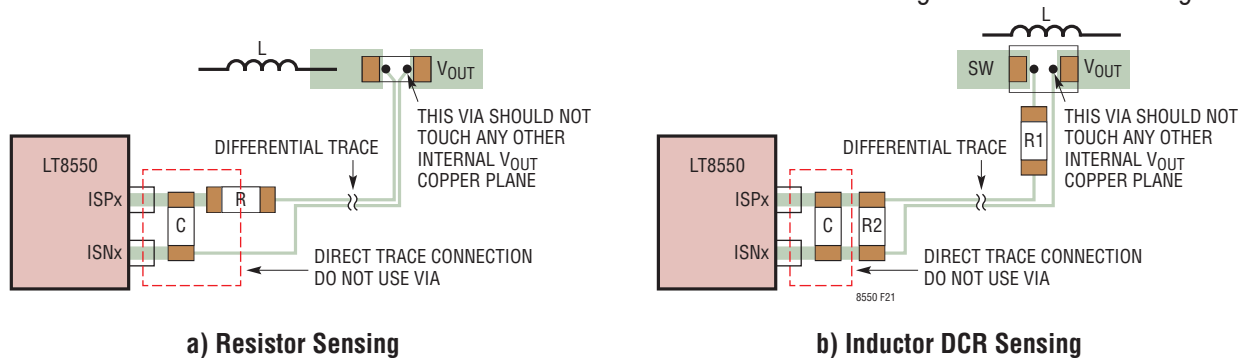

Figure 21. Current Sensing PCB Design
- Of all the small signal traces, current sensing traces are most sensitive to noise. The current sensing traces should be routed differentially with minimum spacing to minimize the chance of picking-up noise, as shown in Figure 21. In addition, the filter resistors and capacitors for current sensing traces should be placed as close to the ISP_x/ISN_x pins as possible. If the DCR sensing is used with an R/C network, the
Place the vias that connect the ISP_x/ISN_x lines directly at the terminals of the current sensing resistors or the inductors as shown in Figure 21.